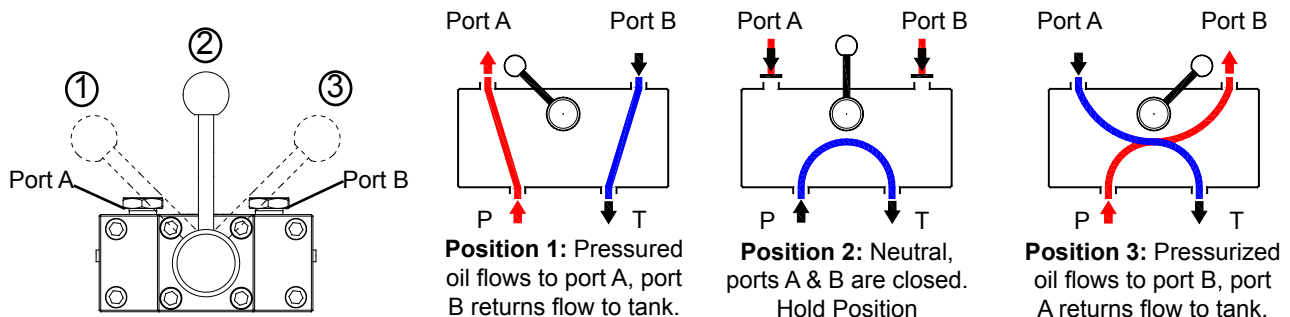

Figure 3 - Schematic flow path, valve position of 4-way, 3-position valve for Double Acting Cylinder
6. Use the control valve lever to control the direction of fluid flow. These pumps are equipped with a 4-way 3-position valve for use with double acting cylinder applications **ONLY**. Refer to Figure 3 below for the flow path.